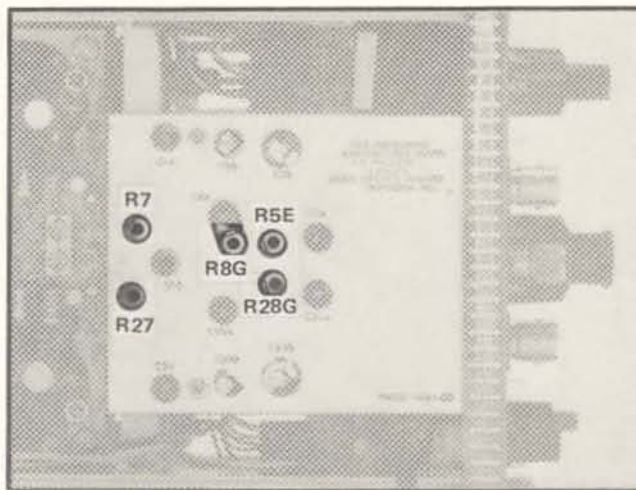

Fig. 5-10. Attenuator board adjustment locations used in the DC Input Resistance and Attenuator Ratio Adjustments procedure.
h. ADJUST—If trace shift exceeds ± 0.3 division, leave the +INPUT Mode switch in the DC position and adjust R8G (see Fig. 5-10) so that the trace is within the given tolerance. Recheck for no trace shift as the +INPUT switch is set from Vc to DC. If necessary, readjust R8G.
i. ADJUST—If a null reading is not obtained, adjust R7 (see Fig. 5-10) for a null indication on the Precision DC Voltmeter.
g. ADJUST—If the tolerance is exceeded, leave the +INPUT Mode switch in the DC position and adjust R5E (see Fig. 5-10) for minimum trace shift.
g. ADJUST—If trace shift exceeds ± 0.3 division, leave the -INPUT Mode switch at DC and adjust R28G (see Fig. 5-10) for minimum trace shift.
j. ADJUST—If a null reading is not obtained, adjust R27 (see Fig. 5-10) for a null indication on the Precision DC Voltmeter.